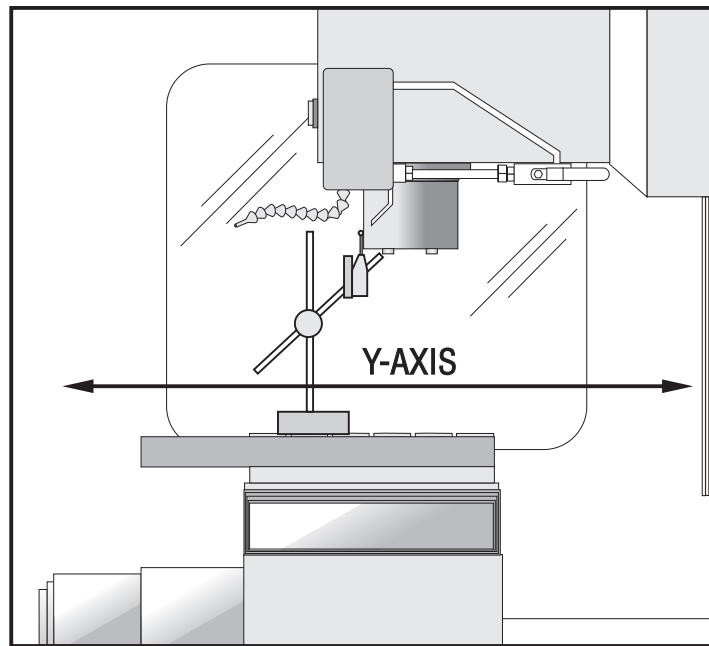

Figure 3-2. Dial indicator in position to check Y-axis.
1. Set up a dial indicator and base on the mill table as shown in Fig. 3-2.
An alternate method for checking backlash is to place the dial indicator as shown in Fig. 3-2 and manually push on the mill table in both directions. The dial indicator should return to zero after releasing the table.